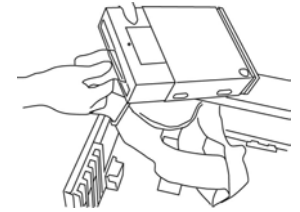

Figure 9
4.2) Before slide in the CD-ROM bracket, connect the cable and **routing the cables with cable tie**. (See Figure 9,10,11)